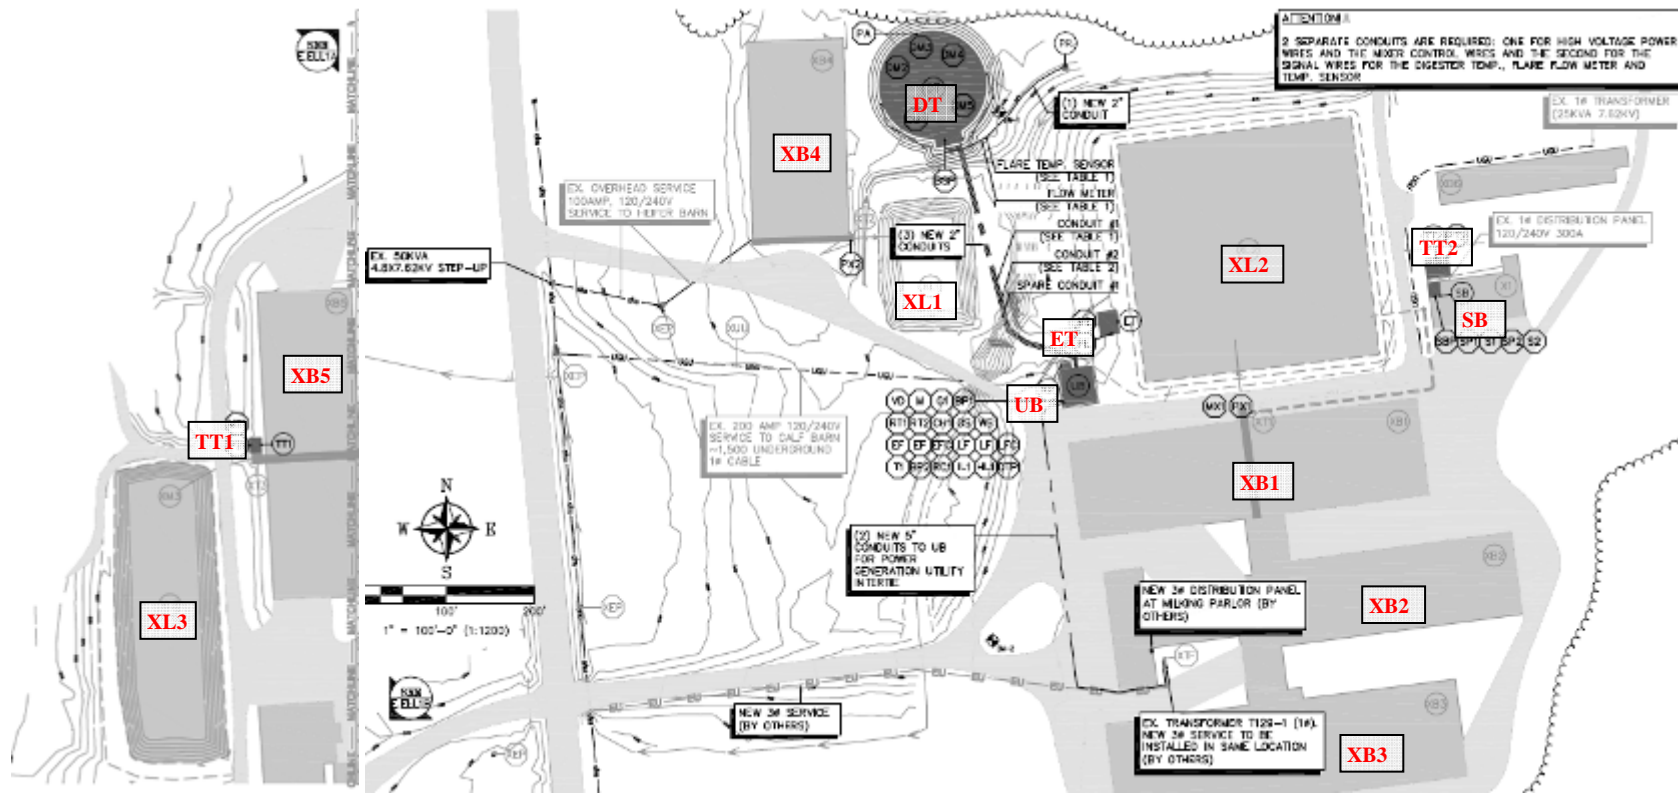

Figure 3 – Site Plan
Figure 3 shows the farm layout and general site plan. Manure is provided to the digester (DT) by five (5) separate barns on the property (XB1, XB2, XB3, XB4 and XB5). The three large barns (XB1, XB2, XB3) feed directly into the digester, while the two smaller barns (XB4, XB5) feed into a common pit from where the manure is pumped into the digester (DT). The digester has a 25 day retention time, after which effluent flows from the digester into an effluent tank (ET) before being pumped to the separator building (SB). Should the effluent tank (ET) over fill, excess effluent will flow into storage lagoon XL2.
The lower heating value for the biogas is estimated to be 600 Btu/ft³ based on past measurements of the CO₂ content of biogas. This value will be verified weekly based on measurements of carbon dioxide using a Bacharach Fyrite CO₂ detector for a range of 0-60%. The Farm staff will perform the CO₂ tests and log the results in the project log. This test is performed by taking a gas sample from the low pressure gas supply before it enters the gas conditioning equipment. The sampling point is marked in Figure 3 as “CO₂ Sampling”